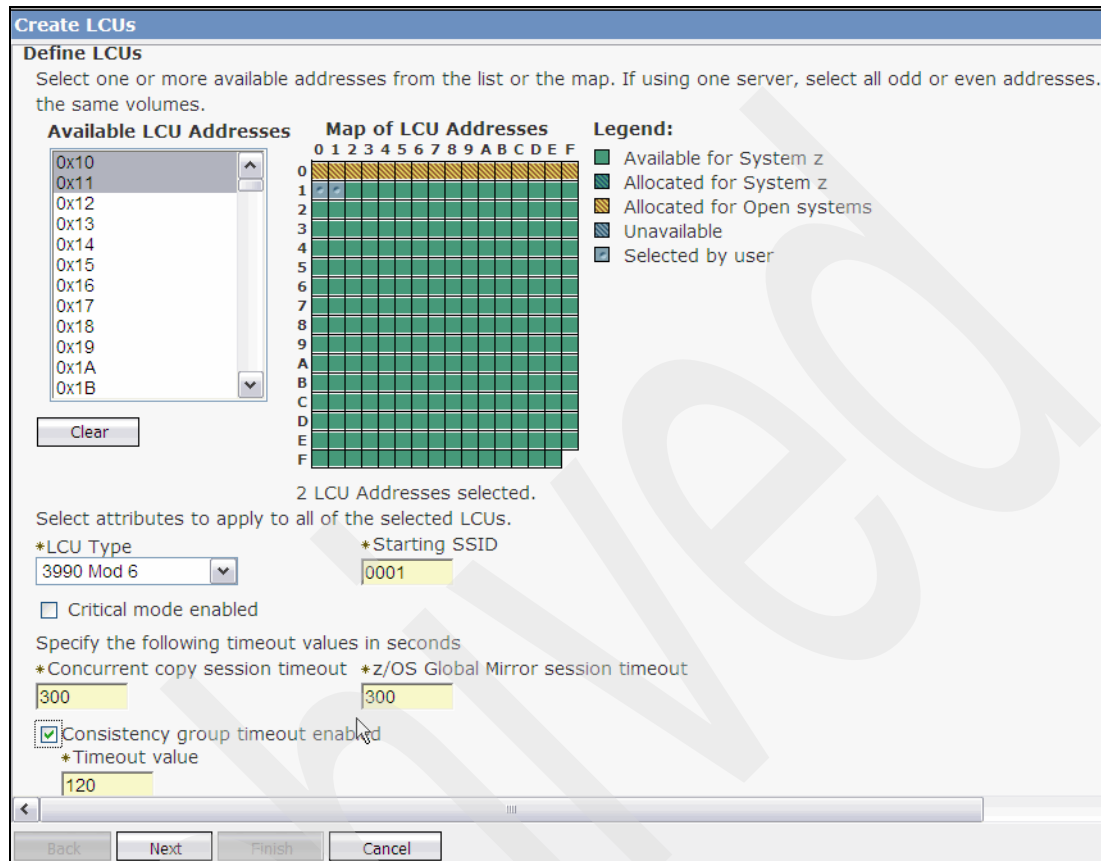

Figure 13-67 Create LCUs window
- To create new LCUs, select **Create new LCUs with volumes** from the tasks list. The Define LCUs (Figure 13-67) window opens.